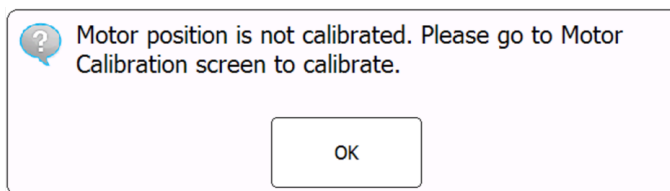

Figure 47 Notification when motor position is not calibrated
A motor calibration (MC) is a procedure that designates the location of each well that is scanned by the optical modules for each individual slot. Instruments are provided with the motor calibration step completed, and additional motor calibration runs are not generally required after receipt of the instrument. If, however, you see a notification on the instrument touchscreen alerting you that motor calibration is required (Figure 47), press **OK**, then follow the on-screen prompts.